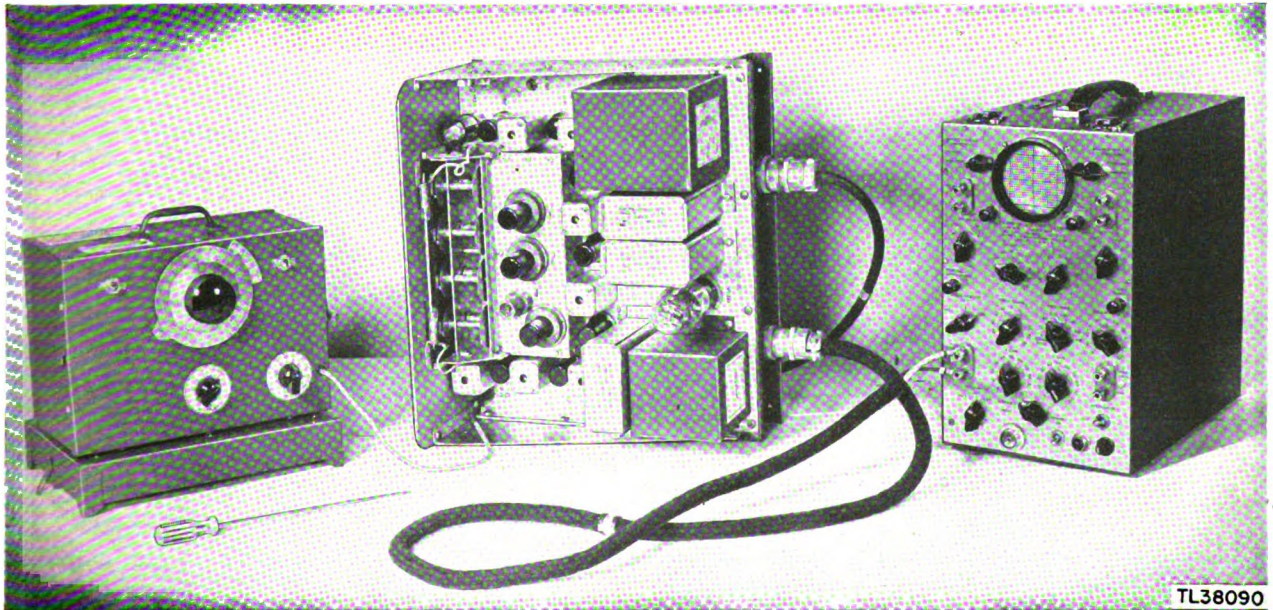

Figure 108. Receiver set up for alignment procedure.
(1) Keep the equipment close together.
(2) Connect all chassis together with several short leads.
(3) Ground the chassis.
*c.* Preliminary to the alignment of the receiver, the following steps must be taken (fig. 108):
(1) Connect test cable 110 to receiver output socket and connect the spade lugs to the Y signal input terminals of scope. Use internal sweep.
(2) Connect the output of the signal generator to the I.F. IN jack, 129-1.
(3) Turn the equipment on and allow it to warm up for a few minutes.